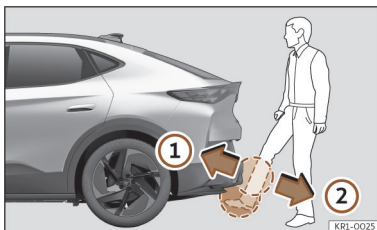

Fig. 80 Rear lid with sensor-controlled opening (Easy Open).
- With a brisk movement, bring your foot and lower leg as close as you can to the bumper. The lower part of the leg needs to be close to the upper sensor area and your foot to the lower sensor area >>> **Fig. 80 ①**.
- Quickly remove your foot and lower leg from the sensor areas >>> **Fig. 80 ②**. The rear lid will open automatically.